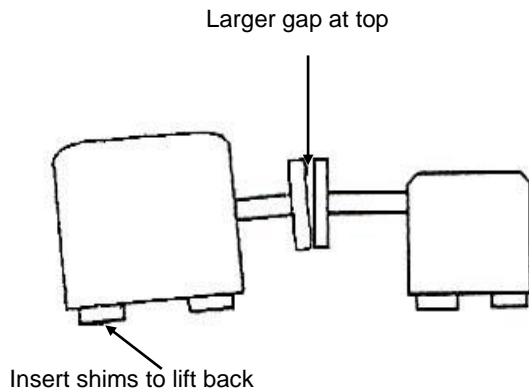

FIG 33.
- When the gap is bigger at the top than at the bottom of the coupling, **lift the driver (motor) or driven at the back.** (Fig 33 on the next page)